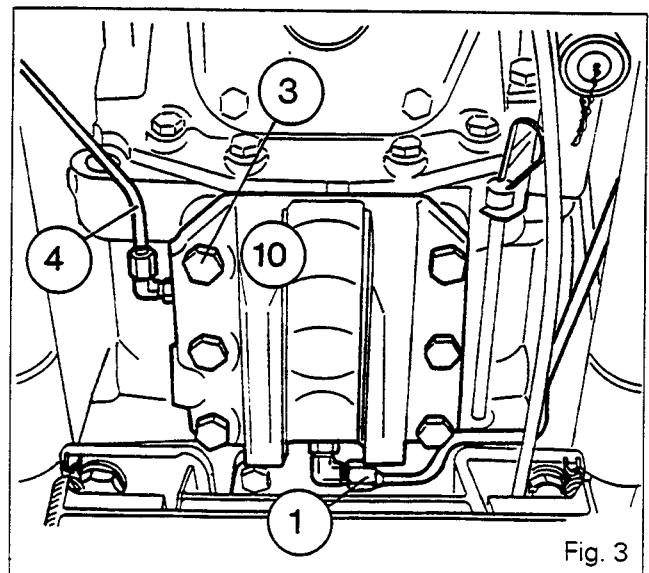
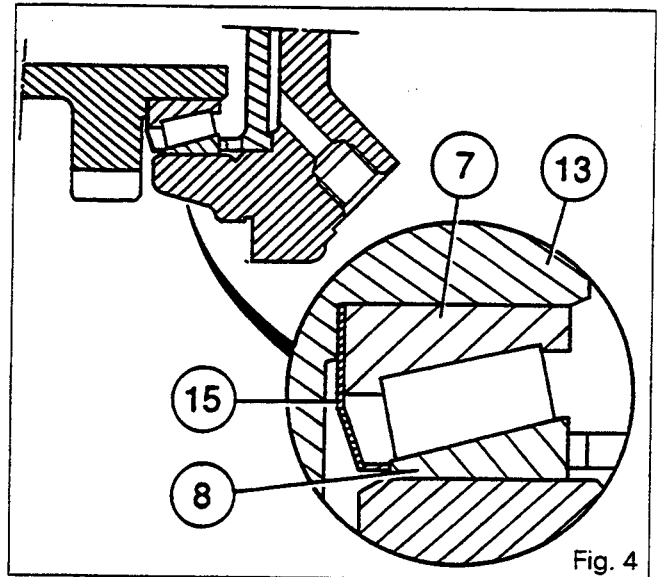
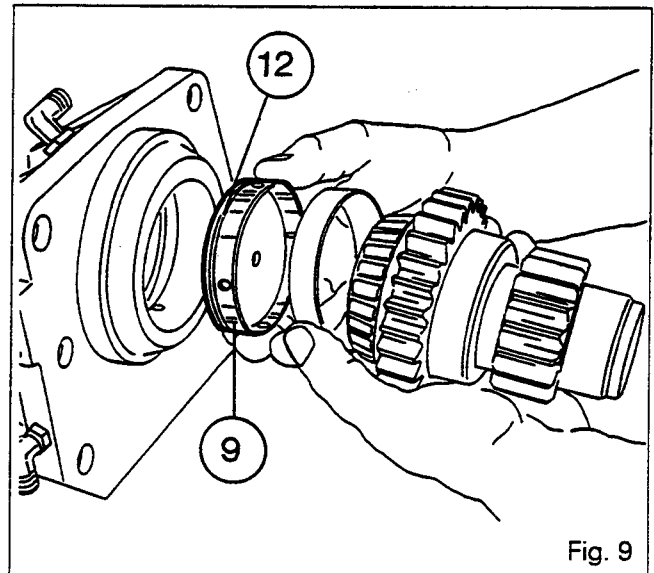

Fig. 3
Fig. 4
Fig. 9
4. Disconnect the supply tube (1) of the PTO brake (Fig. 3).
5. Disconnect the lubrication tube (4) (Fig. 3).
6. Remove the bolts (3) and the top link support (10) (Fig. 3).
7. Withdraw the pinion (13) and shaft (2) assembly held by the washer (5) and screw /6. Remove the bearing cone (4).
**Note: The shaft (2) is mounted in the clutch (1) without locking screw.**
9. Refit the bearing cone (4). Fit the pinion (13) and shaft (2) assembly held by the washer (5) and screw /6.
**Note: To ensure the lubrication of the bearing cone (7), a cup plug (36) is fitted without Loctite, recessed into the face of the housing.**
12. Refit the top link support (10). Fit and tighten the bolts (3) to a torque of 130-170 Nm (Fig. 3).
**Note: Ensure that the cup (8) is present.**
13. Reconnect the supply tube of the PTO brake (1) and the lubrication tube (4) (Fig. 3).
22. Disconnect the supply tube (1) from the PTO brake (Fig. 3).
23. Disconnect the lubrication tube (4) (Fig. 3).
24. Remove the bolts (3) of the top link support (Fig. 3) and detach it.
25. Withdraw the pinion (13) and shaft (2) assembly held by the washer (5) and bolt /6\.
- Note : The shaft (2) is mounted in the clutch (1) without locking screw.**
26. Remove the screw /6\ and the washer (5).
27. Separate the pinion (13) from the shaft (2).
- Note : A deflector (15) is mounted between the pinion (13) and the bearing cone (7), in contact with the cup (8) (Fig.4).**
45. Fit the piston (9) with a new O-ring (12).
**Note: Position the lubrication holes of the piston toward the bearing cone (Fig. 9).**
46. Fit the cup (8) in the support.
47. Withdraw the pinion (13) and assemble on the shaft (2) with the washer (5) and bolt (6). Tighten to a torque of 50 Nm.
48. Refit the bearing cone (4). Fit the pinion (13) and shaft (2) assembly.
50. Refit the top link support (10). Fit and tighten the bolts (3) to a torque of 130-170 Nm (Fig. 3).
51. Reconnect the supply tube (1) of the PTO brake and the lubrication tube (4) (Fig. 3).